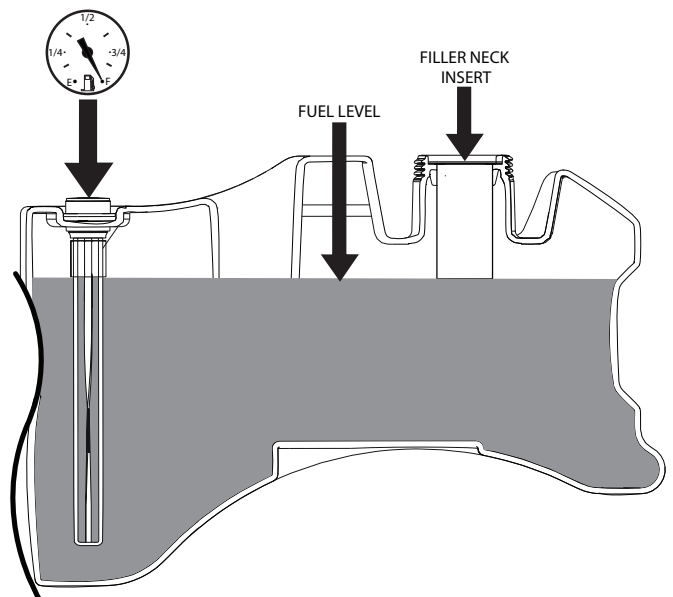

Figure 7-6. C.A.R.B. / EPA Phase 3 Fuel Level
Fill to the bottom of the filler neck insert (approximately 6-1/2 gallons on SPZ52/61 indicating Full (F) on the fuel gauge) at the beginning of each operating day. See Figure 7-6. Do not overfill. Use clean, fresh unleaded gasoline with a minimum octane rating of 87 and a maximum of 10% Ethanol.